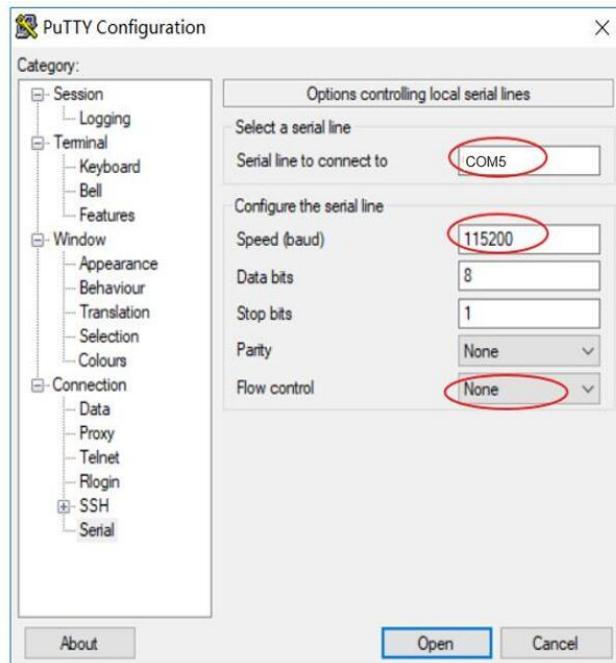

Figure 5-12 Set Port Parameters
- Set the PuTTY Configuration, set COM port number as same as shown in Device Manager, baud rate “115200” , Flow Control select “None”, as shown in **Figure 5-12**.